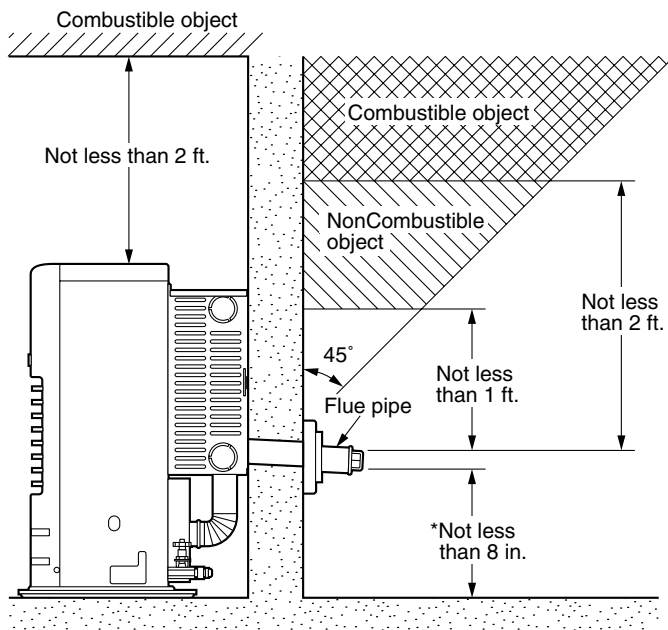

Fig. 2
2. Make sure that the outside area to where the standard flue pipe will reach is clear of any objects. (See Fig. 2 & 3)
CAUTION! The standard flue pipe installation, as shown in Fig. 2, is for wall thickness from 4 in. to 9 in.